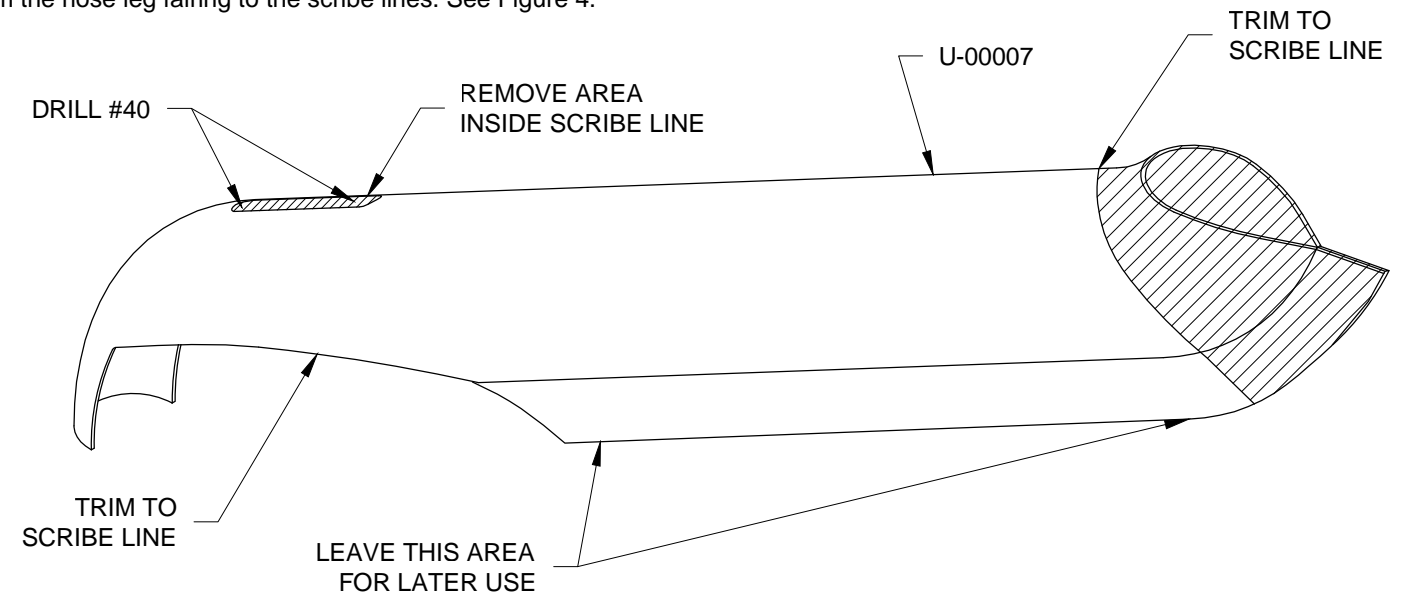

FIGURE 4: NOSE LEG FAIRING TRIM
Step 6: Drill #40 multiple places inside the scribe line on the forward surface of the U-00007 Nose Leg Fairing to create an opening for the WD-1201 Gear Leg Assembly winch lug as shown in Figure 4. Finish up to the scribe line with a file and sandpaper.
Trim the nose leg fairing to the scribe lines. See Figure 4.